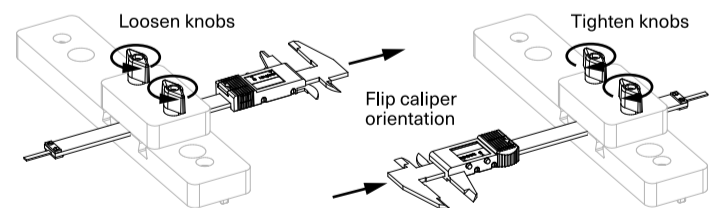

Fig 6a - Face caliper depth rod towards rip fence
- 6.1 Flip the caliper so that the depth rod is toward the rip fence [Fig 6a].